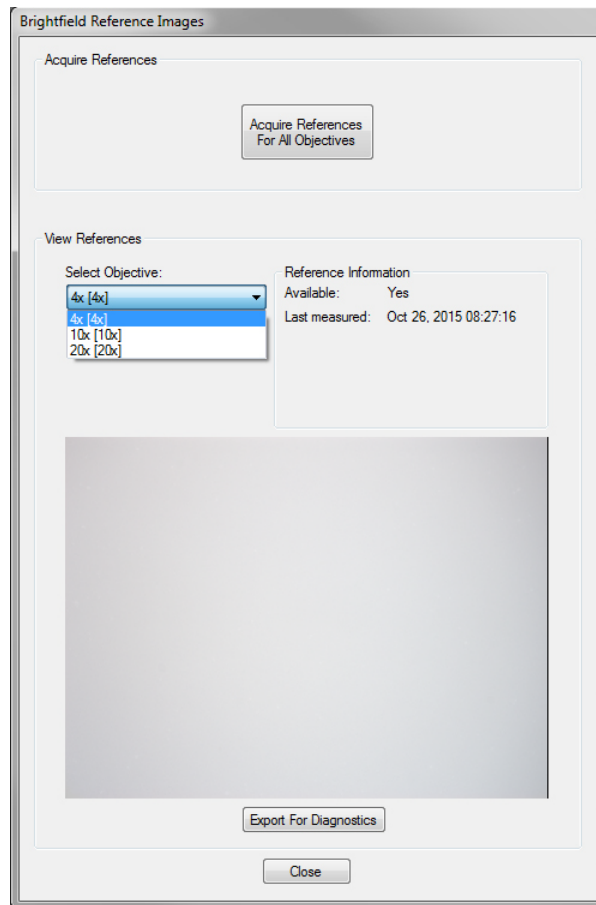

Figure 17. Brightfield Reference Images Window
3. Click the **Brightfield References** button. The Brightfield Reference Images window opens as shown in Figure 17. The Brightfield Reference Images window allows you to view any existing reference images or acquire new reference images.